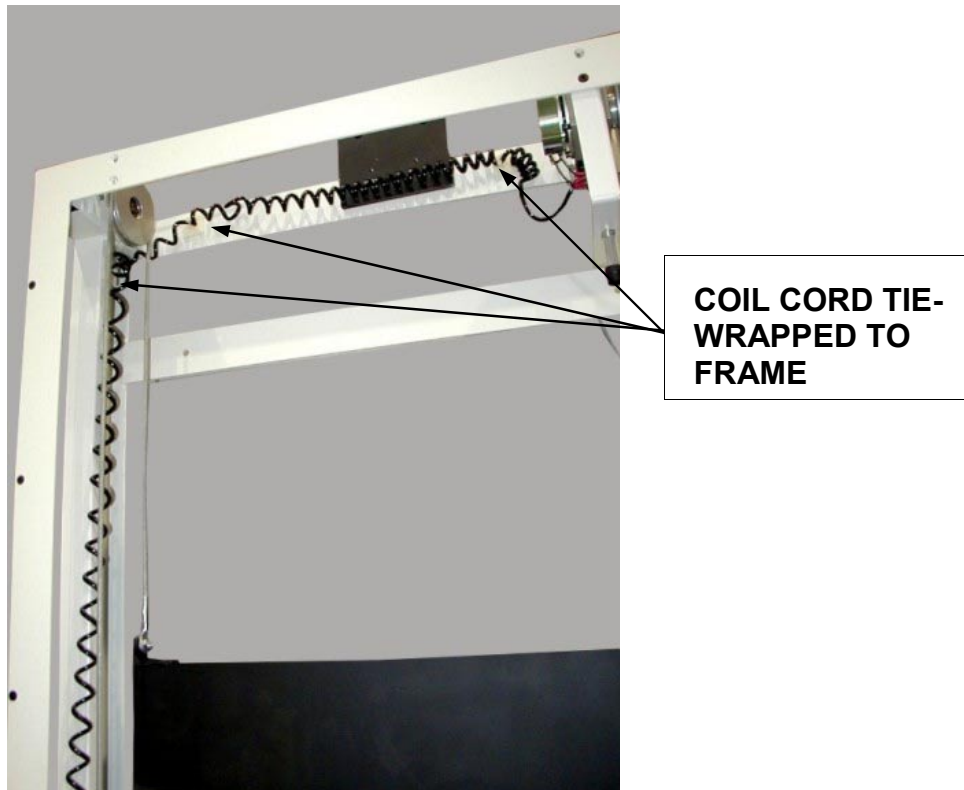

Figure 5. Coil Cord Cable Routing (Left hand Load Systems)
6. On systems configured for left-hand film loading, tie-wrap coil cord cable as shown in Figure 5.